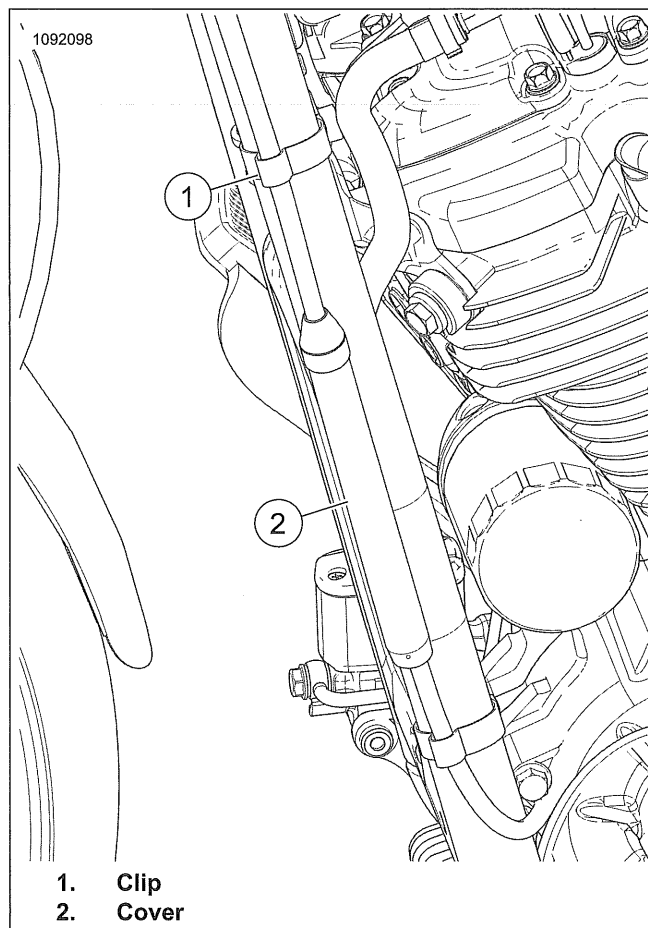
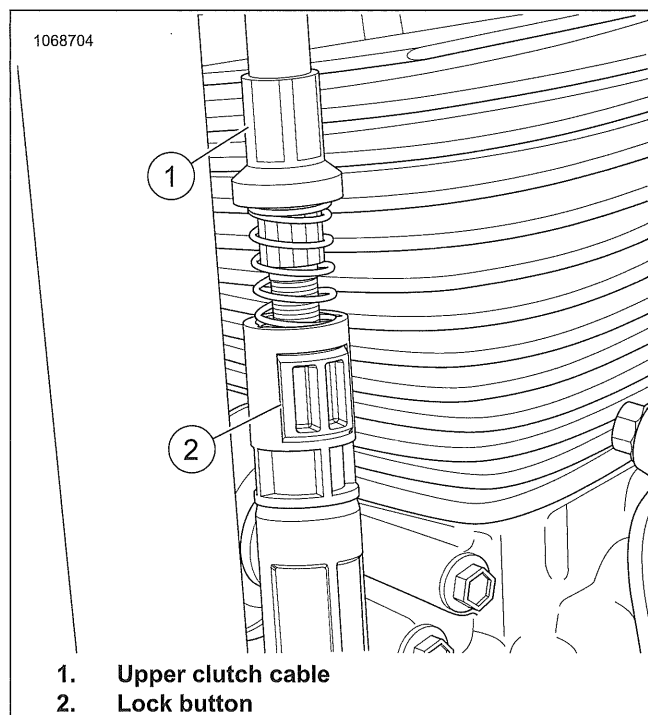

Figure 3-93. Clutch Cover and Clip
Figure 3-94. Lock Button
1. See Figure 3-93. Access two piece clutch cable.
- a. Remove spring clips (1).
- b. Slide cover (2) up.
2. See Figure 3-94. Identify upper clutch cable (1) and red lock button (2).
6. See Figure 3-94. Push in lock button (2).
8. See Figure 3-93. Slide cover (2) down and install spring clips (1).